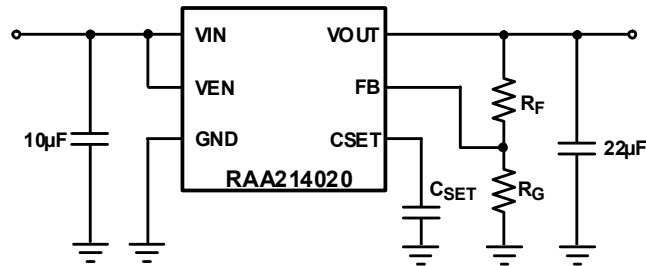

Figure 1. RAA214020 Simplified Application Schematic
The RAA214020 output voltage ( $V_{OUT}$ ) can be programmed down to 0.9V and up to  $5.5V - V_{DO}$  using the feedback (FB) resistors,  $R_F$  and  $R_G$ , as shown in Figure 1.